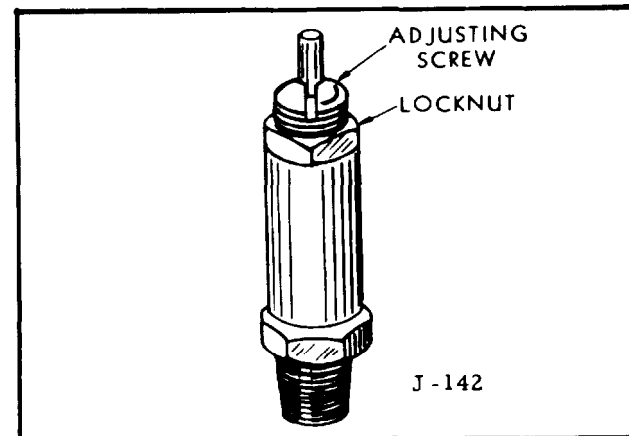

FIGURE 12-17.
**12-63. AIR TANK SAFETY VALVE (see figure 12-17).**
**12-65. TIRE SAFETY VALVE (see figure 12-17).**